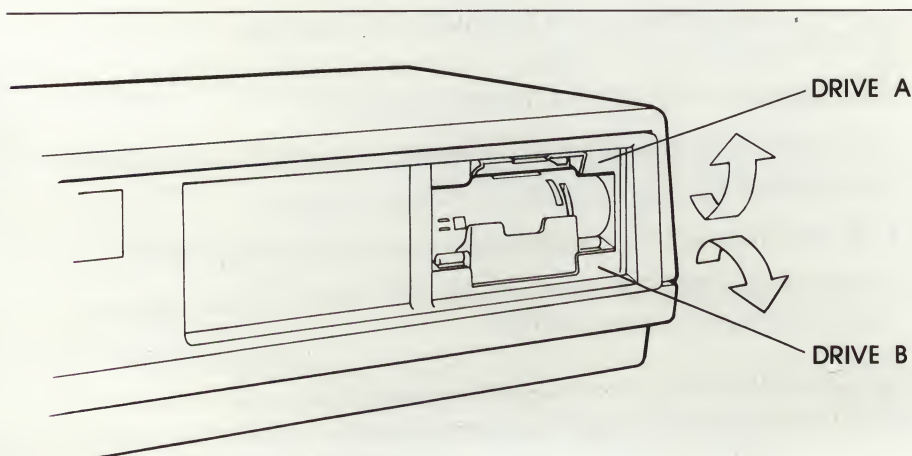

Figure 1 Open Drive Doors
- 1 Open the diskette drive doors and make sure that all drives are empty, as shown in Figure 1.